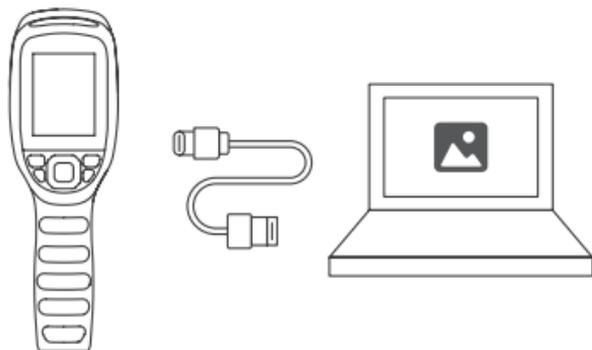

Figure 4.1
2. Connect TC004 to your computer with the supplied USB cable (see Figure 4.1.).